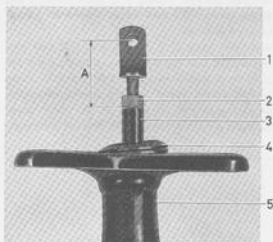

Fig. 5-74. Fitting the fork
5. Undo the locknut (2, Fig. 5-74) and screw off the fork (1). Remove the rubber cover (4) and bracket (5). Unscrew the thrust rod (3) from the rear thrust rod of the power cylinder.
1. Apply a couple of drops of Loctite type B to the power cylinder thrust rod and then screw in the thrust rod (3, Fig. 5-74) as far as possible on the power cylinder.
3. Fit the rubber cover (4) in position. Screw on the locknut (2) and fork (1). The distance between the hole center of the fork and the end (meas. A) of the thrust rod should be about 45 mm (1.8").